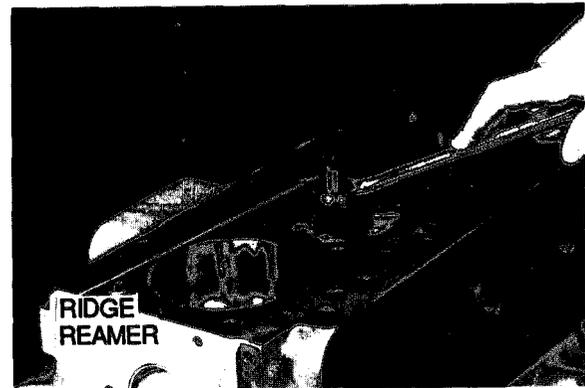

Figure 6-1
4. Using a ridge reamer, remove ridge from top of cylinder bore (Figure 6-1).